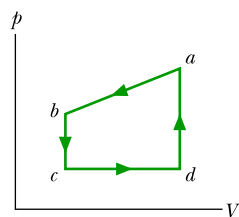

Figure 18.19 Problem 49.
**49** **M** **GO** Figure 18.19 represents a closed cycle for a gas (the figure is not drawn to scale). The change in the internal energy of the gas as it moves from  $a$  to  $c$  along the path  $abc$  is  $-200$  J. As it moves from  $c$  to  $d$ ,  $180$  J must be transferred to it as heat. An additional transfer of  $80$  J to it as heat is needed as it moves from  $d$  to  $a$ . How much work is done on the gas as it moves from  $c$  to  $d$ ?